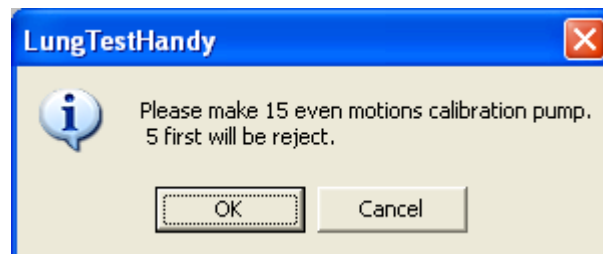

Fig. 7.2. Dialog box with information supporting execution of the volume calibration procedure
- 5) Then, an information window appears with instructions on how to run the calibration (Fig. 7.2).